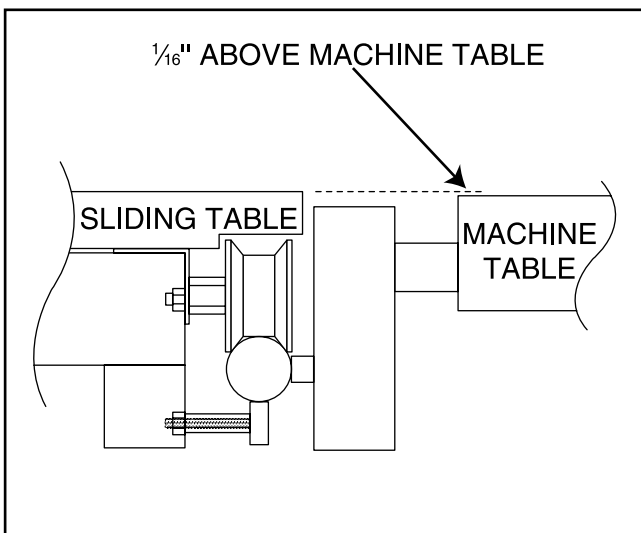

Figure 13. Roller adjustment.
14. Now loosen the eccentric roller shaft nuts slightly and rotate the eccentric shafts until the sliding table is about  $\frac{1}{16}$ " above the machine table. Tighten the nuts down and recheck the sliding table height. Fine tune the table height by turning the upper grooved roller eccentric shafts without loosening the nut. **Figure 13.**